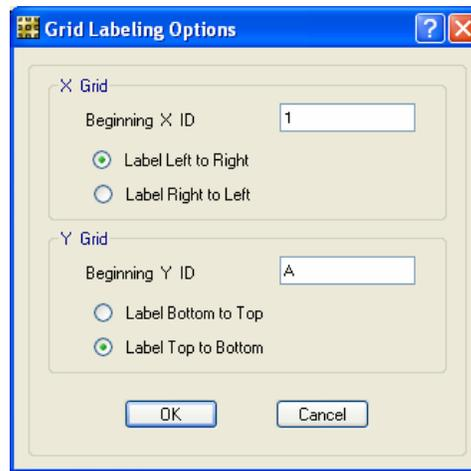

Figure 54 Grid Labeling Options form
5. Click the **Grid Labels** button to display the Grid Labeling Options form shown in Figure 54.